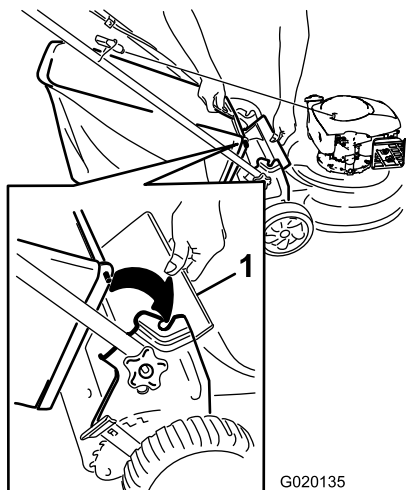

Figure 15
1. Lift up the rear deflector (Figure 15).
2. Insert the grass bag handle onto the notches on the handle brackets and make sure that it is well seated (Figure 15).